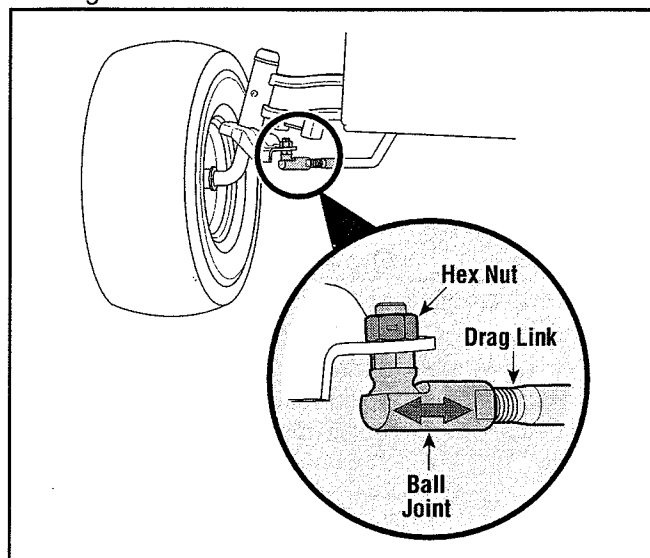

Figure 15
1. Remove the hex nut on the top of ball joint. See Figure 15.